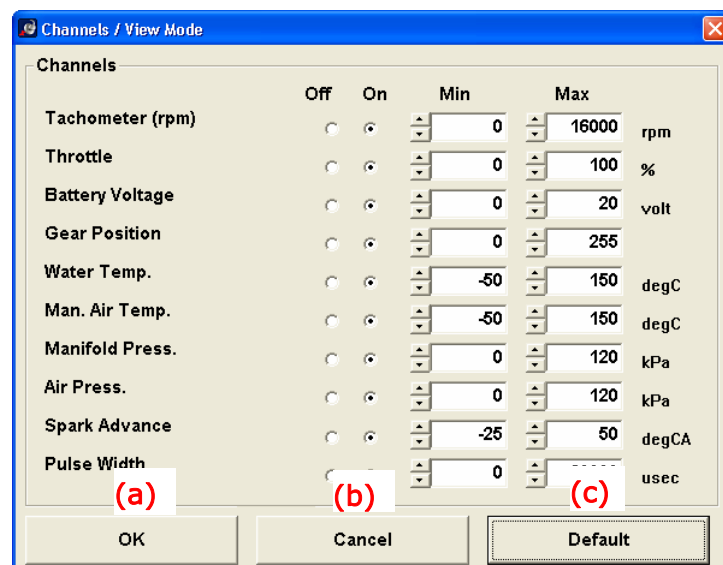

Fig. 6-3-1
- (3) To toggle the display of each channel, select the corresponding **[On]** or **[Off]** radio button.
- (4) To change the display range of the vertical axis of graph for each channel, take any of the following steps:
- (5) Clicking the **[OK]** button (Fig. 6-3-1 (a)) will complete the setting.
- (6) Clicking the **[Cancel]** button (Fig. 6-3-1 (b)) will cancel any changes.
- (7) To return the values to their defaults, click the **[Default]** button (Fig. 6-3-1 (c)).